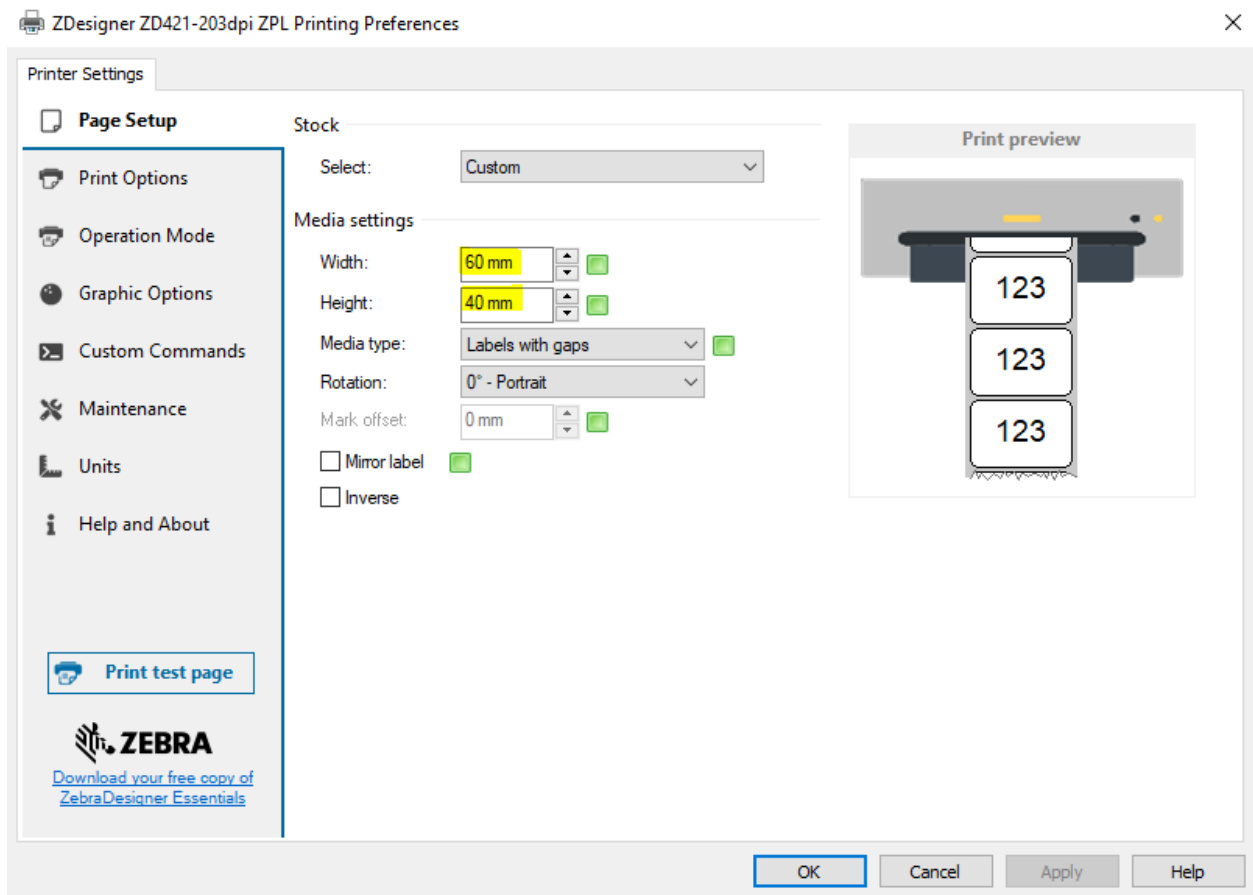

Figure 3: Page setup
- Figure 3: Page setup3
Once you click on **Printing preferences**, a new window will appear where you select **Page Setup** (see Figure 3). Enter the width and height of the medium or label that you use into the fields that are highlighted in yellow.